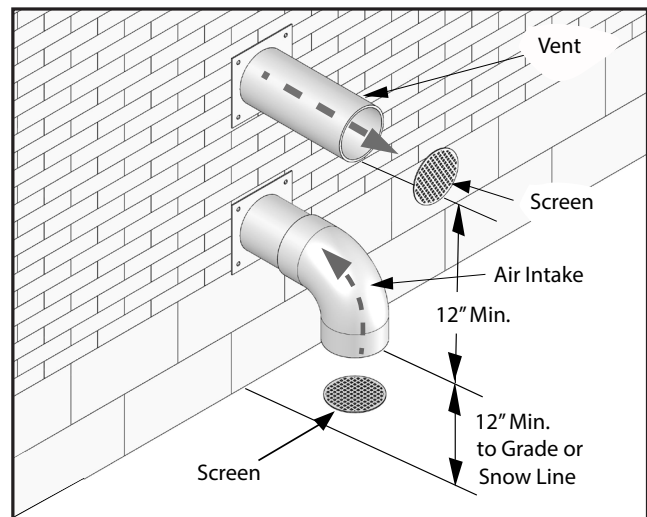

Figure 10. Side Wall Termination
1. The vent must terminate in either a straight coupling, elbow, or an approved vent termination listed in this manual. No matter what terminal is used, the vent termination must face outward away from the wall as shown in Figure 10. The vent termination must not face downward, or flue gas recirculation could occur. When ducted combustion air is used, the air intake must terminate in a down-turned elbow.